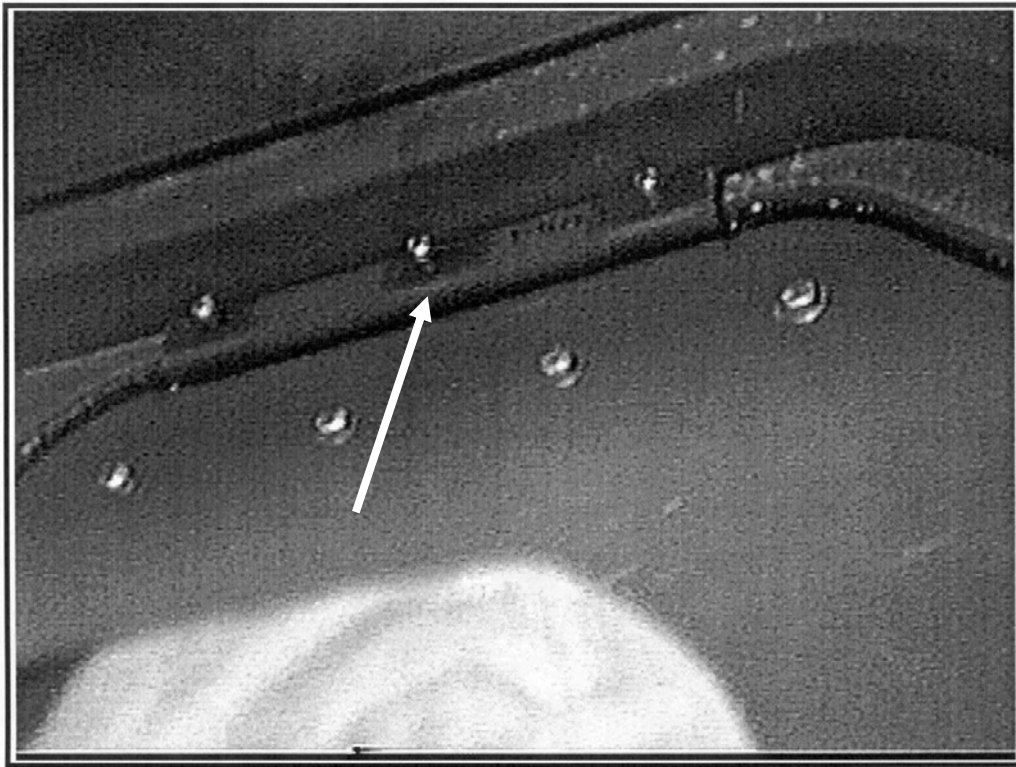

Figure 31. Slide the Mounting Armor Brackets over the rear cab window opening edges.
- e. Using a lift sling and material handling equipment (hoist, forklift, etc.) position the driver's-side Rear Cab Armor Panel (P/N 106724-3) onto the outside rear of the cab, with the arrow (↑) pointing up and facing the installer, and slide the Mounting Armor Brackets over the rear cab window opening edges (See Figure 31).